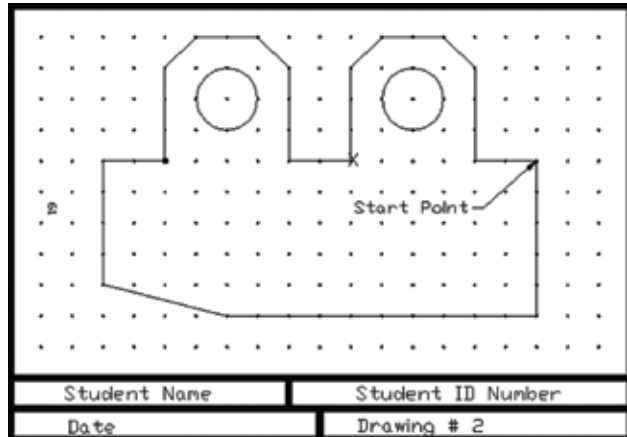

Figure 2.3
2. **Position the cursor** at the “Start Point” as shown in “Draw 2.” See Figure 2.3. (Pick a point on your screen that is about the same location as the start point shown in the drawing.)
Using the Text command, make sure your name, personal identification number, and drawing 2 is entered on your drawing. (The drawing you submit should look identical to Draw-2 on figure 2.3.) You will be asked to open this drawing in Chapter 4 when you must accurately dimension it.